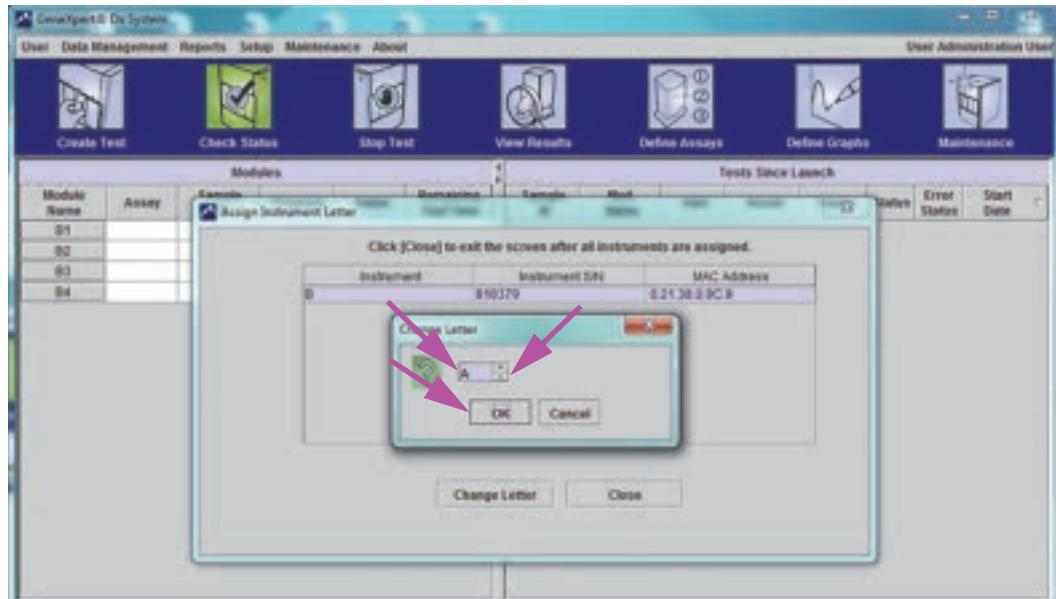

Figure 2-58. GeneXpert Dx System Window with Change Letter Dialog Box Overlay
The Change Letter dialog box appears, as shown in Figure 2-58. Select the letter to be assigned to the module(s) by using the up and down arrows of the Change Letter dialog box.
6. After changing the assignment letter, click **OK** (see Figure 2-58).